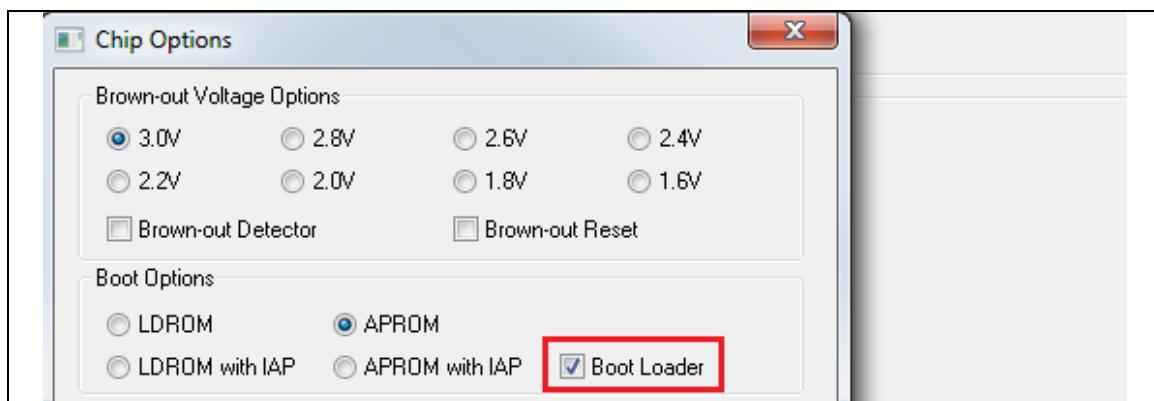

Figure 8-14 Boot Loader Option
**Step3:** Click “Setting” button to enable “boot Loader” option in Figure 8-14